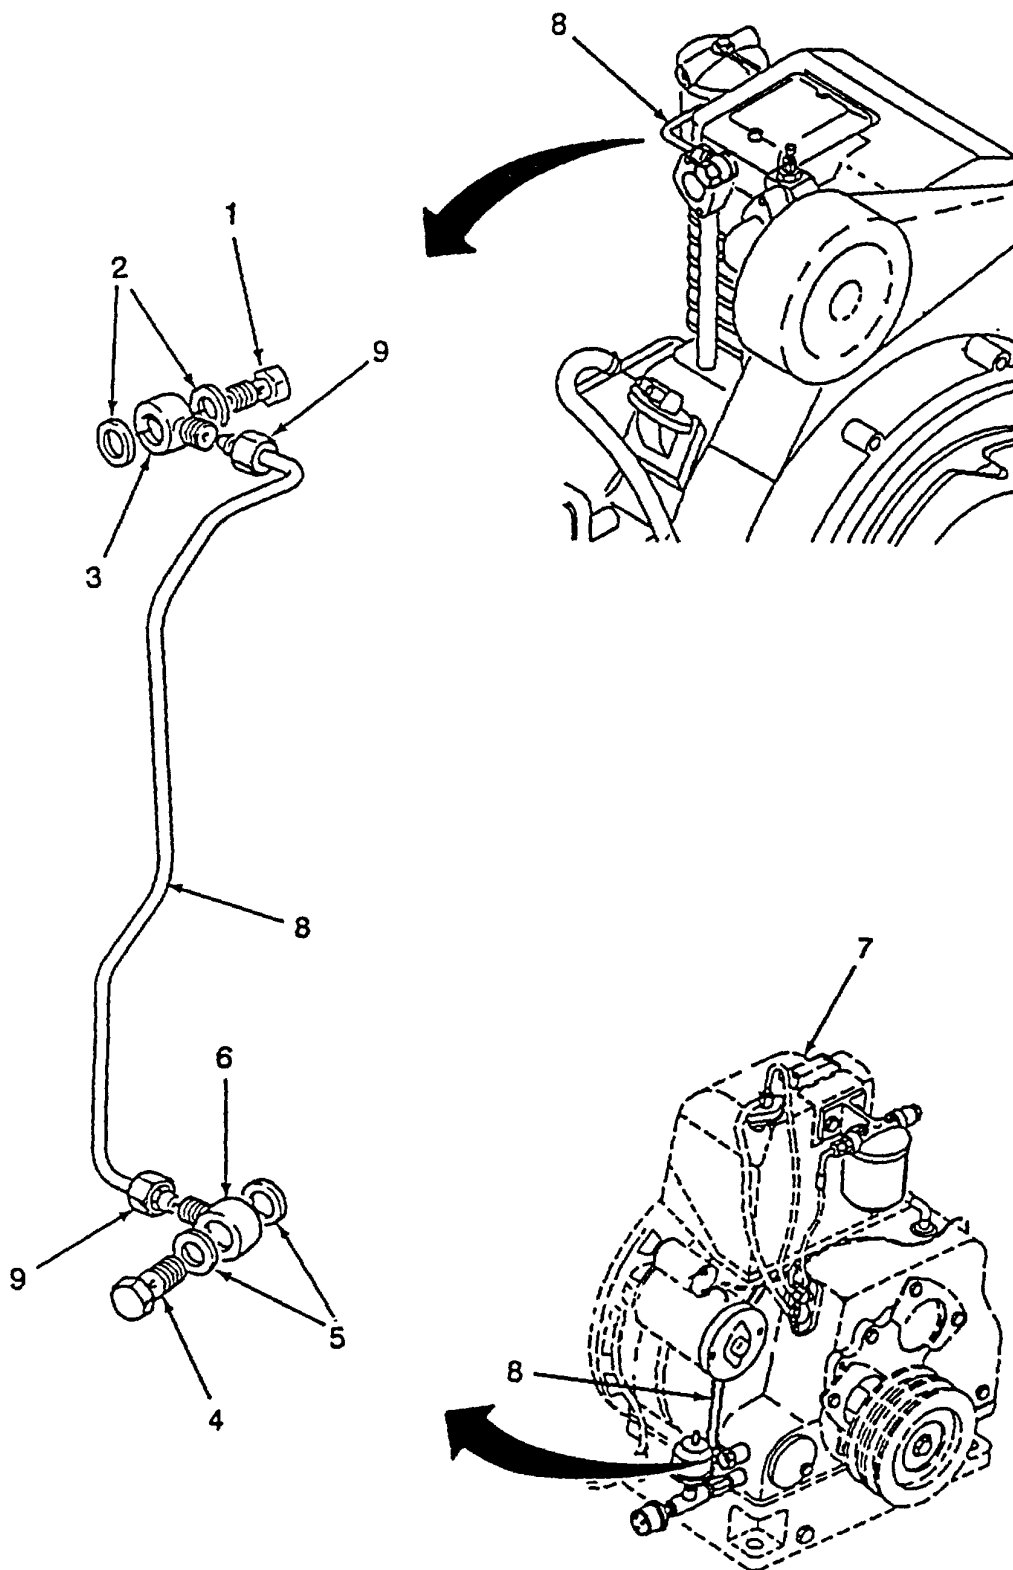

Figure 5-21. Lubricating Oil Pipe
(1) Removal. (Refer to Figure 5-21).
- (a) Remove bolt (1), two copper washers (2) on each side of swivel union (3).
- (b) Remove bolt (4) and two copper washers (5) on each side of swivel union (6) from oil filter on diesel engine (7).
- (c) Remove lube oil pipe assembly (8) by removing lube oil nuts (9) from swivel unions (3 and 6).
(2) Repair.